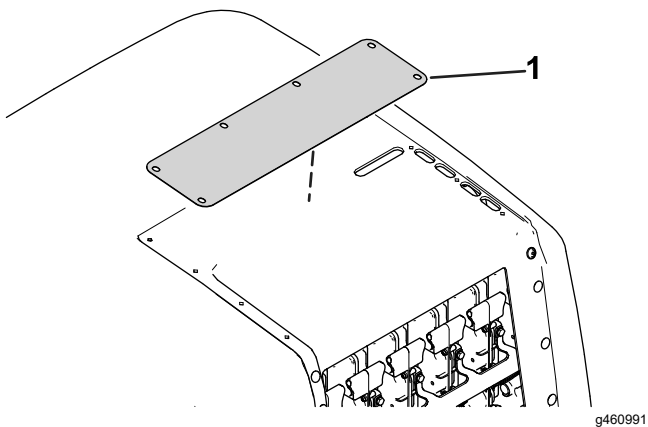

**Figure 23**
9. Remove the 12 plastic plugs shown in Figure 23 from the hood.
- Retain the 5 plugs shown in Figure 23
- Discard the 7 plugs shown in Figure 23